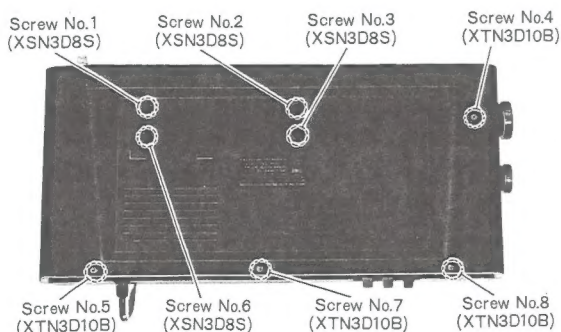

Fig. 1
2. Remove eight (8) cover and clock screws, nos. 1~8, as illustrated in fig. 1.
1. Remove three (3) clock knob from cabinet.